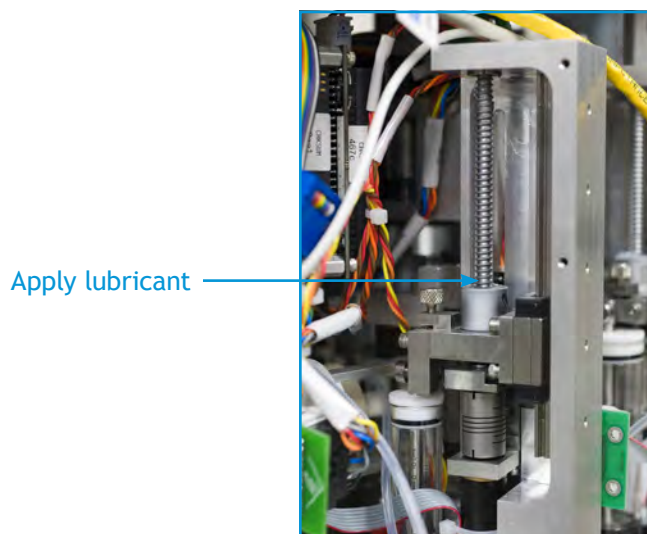

Figure 1-5: Ballscrew
- Apply a small amount of lubricant to the shaft of the ballscrew, just above the nut. See Figure 1-5.